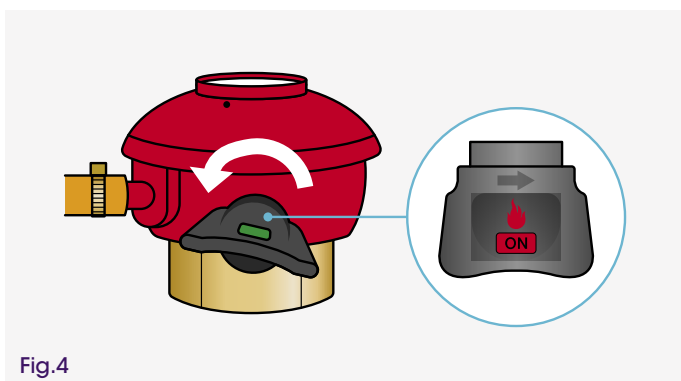

Fig.4
- the "snap on compact" regulator handle ⑤ is in the "off" position.
Then, dismount the "snap on compact" by pressing horizontally on the handle ⑥ and pulling upwards at the same time (Fig.4).
horizontal ON position. In ON position a red flame and the marking "ON" is visible (Fig. 4).